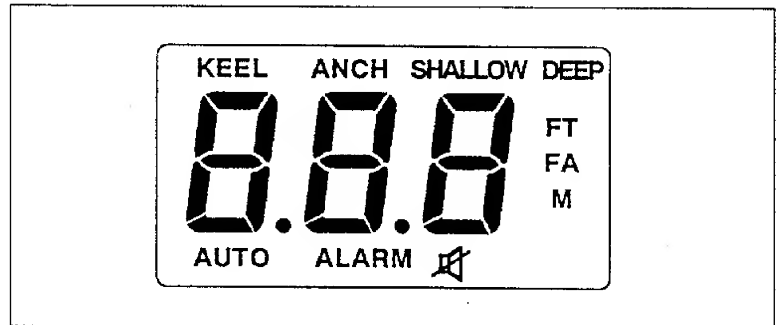

Fig.6-2
- 1) All indications blink twice. Fig.6-2 shows all indications on the window.